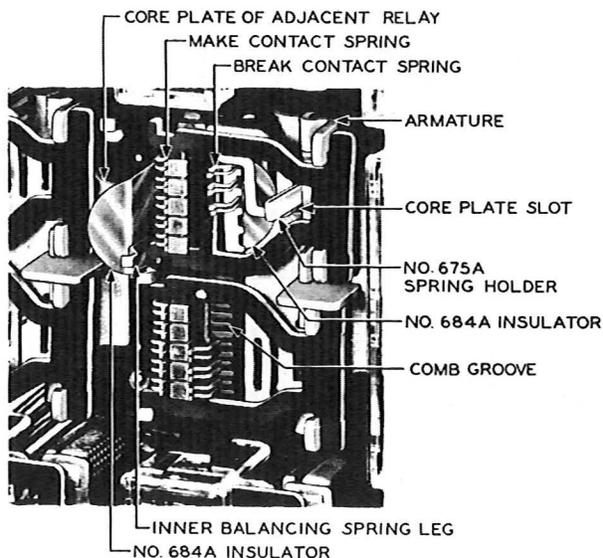

Fig. 5 – No. 684A Insulators and No. 675A Spring Holder Mounted on Upper Half of Relay
3.13 If the relay has break contact springs, these springs must be moved out of their comb grooves during replacement of the card. In order to prevent shorting of the break contact springs against the contact cover spring or the core plate, insert the No. 684A insulator in the relay as follows. Hold the insulator with the offset end to the right and insert the other end between the comb and core plate so that the insulator passes to the left of the contact cover spring. Push the insulator inward until the beginning of the offset touches the core plate as shown in Fig. 5. Moving the insulator laterally,
3.14 If the relay has make contact springs and if there is an AF-, AG-, AJ-, or AK-type relay mounted at its left as shown in Fig. 5, it is necessary to prevent shorting of the make contact springs against the core plate of the adjacent relay when these springs are held out of the comb grooves for replacement of the card. To prevent shorting of the make contact springs, position the No. 684A insulator adjacent to these springs as follows. Using a KS-6320 orange stick, move the disengaged inner balancing spring leg to the right. Hold the insulator with the offset end to the left and insert the other end between the inner balancing spring leg and the core plate of the other relay. Release the spring leg so that it holds the insulator against the core plate. With the KS-8511 tweezers, position the insulator so that the beginning of the offset is against the core plate as shown in Fig. 5, and so that the insulator will insulate all make contact springs from the core plate. If the relay is mounted adjacent to other apparatus against which the make contact springs may be shorted, insert a No. 684A insulator between the adjacent apparatus and one or both of the disengaged balancing spring legs as necessary.
3.15 The No. 675A and 675B spring holders are used to hold break contact springs of the upper and lower halves of the relay, respectively, during replacement of the associated card. Each of the spring holders has five notches to engage the five pairs of break contact springs with which it may be used. It is important that the pairs of springs are engaged by the proper notches in the holders. Special care is required to engage the pairs of springs in the proper notches if all five positions on the relay are not equipped with these springs. The No. 675A spring holder is shown mounted on the relay in Fig. 5. To mount either the No. 675A or 675B spring holder, proceed as covered in 3.16.
3.16 With the right hand, apply the KS-6320 orange stick to the right inner edge of the card and move the card as far to the right as possible. Holding the handle of the spring holder in the left hand, insert the notched section of the holder behind the break contacts. Release the card. Swing the handle of the spring holder to the right and position the holder so that each pair of break contact springs is engaged by the proper notch and the inner end of the handle is clipped in the core plate slot directly in front of the armature as shown in Fig. 5. Make sure that the notched section of the holder is against the comb, and that the inner end of the handle does not prevent free movement of the armature which is necessary for removal of the card. If necessary, free the armature by carefully moving the handle slightly outward.